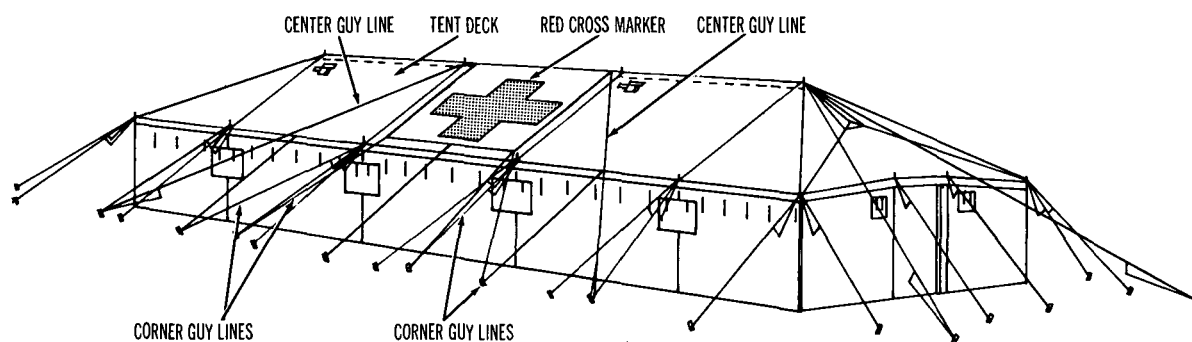

Figure 102. Small Red Cross marker attached to tent, general purpose, large.
- (2) Place the 55 pins provided with each section in a pin roll and close roll securely, tying with tie tapes. Place each pin roll, with pins, on top of a folded section.
- (3) Close flaps of each cover securely and tie tielines tightly through grommets, making sure that no part of marker is exposed.
a. Use. The small Red Cross marker (fig. 102) is used by the Medical Corps. It is designed to be lashed down over the ridge of an A-shaped tent (usually a general purpose tent) to indicate the use of that tent for medical purposes.